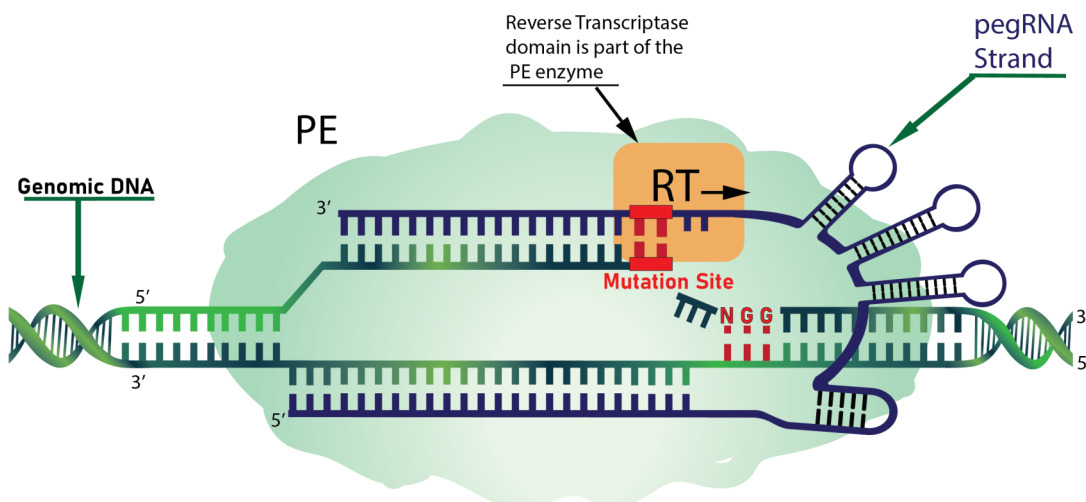

Figure 1. Schematic diagram of prime-editing two bases in genomic DNA (in red) by a PE enzyme and pegRNA.
Intact Genomics is your resource for *in vitro* gene editing using CRISPR Cas systems. Prime-editing is gaining popularity as a precision gene-editing technique. Prime-editing (PE) enzymes are a fusion of the Cas9 nickase mutant (H840A) with a modified Murine Moloney Leukemia Virus-Reverse Transcriptase (MMLV-RT) (1,2). One of the resulting optimized prime-editing fusions is known as PEmax enzyme (3). Prime-editing enzymes enable precise gene-editing without the need for double-stranded DNA breaks (DSBs) or donor DNA templates. PE enzymes require a unique long gRNA known as a “pegRNA” shown schematically in Fig.1.